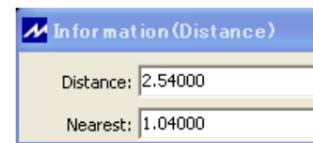

Fig. 33 Distance Popup
④ Distance popup window (Fig. 33) shows: